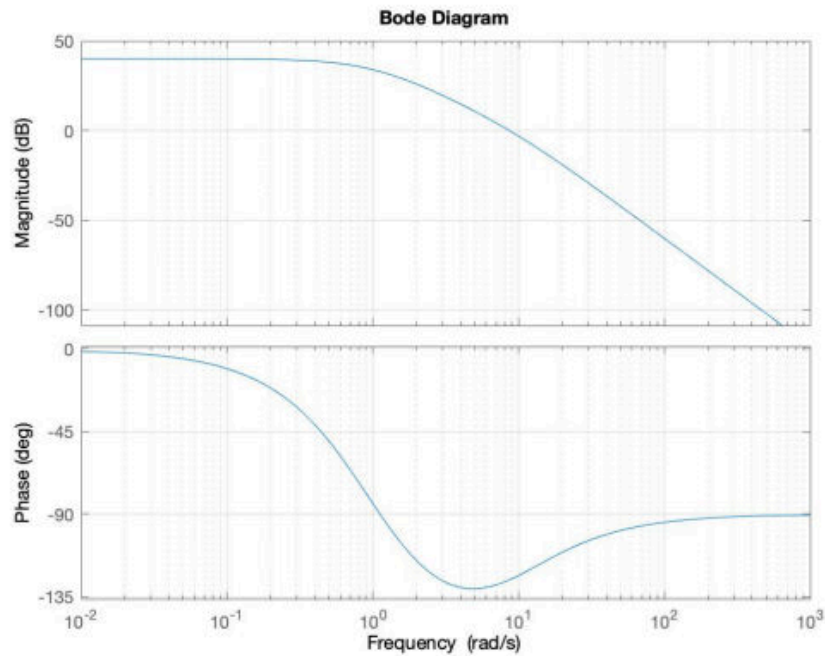

Figure 5: Bode Plot Diagrams - Q5
5. Q5. The bode plot diagrams of the magnitude and phase of a transfer function $G(s)$ of a linear system is shown in Fig. 5.